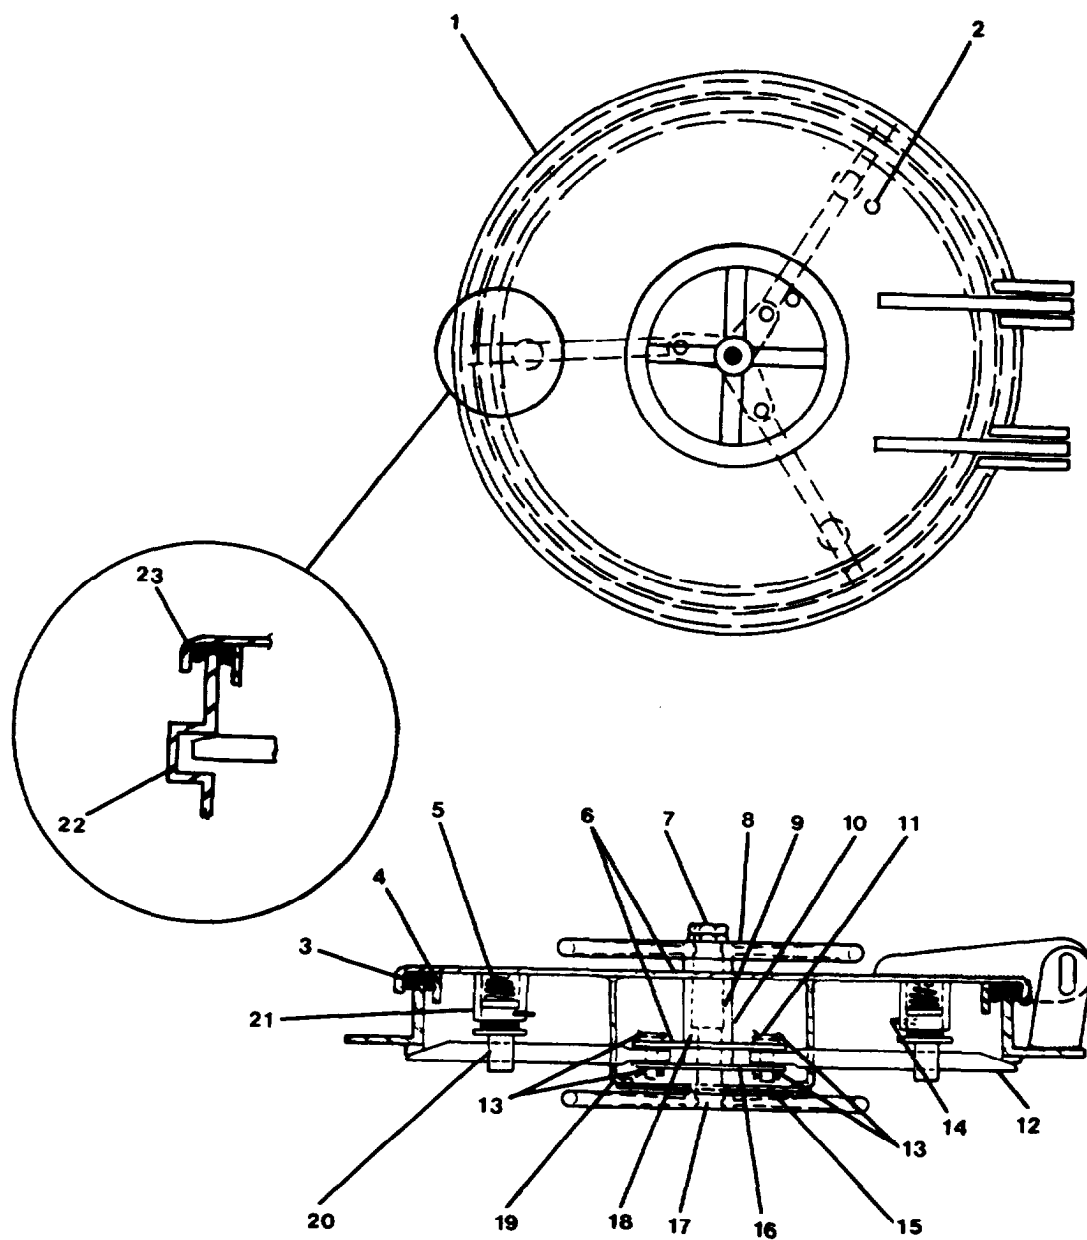

FIGURE 2-183. Repair Watertight Scuttle, Quick Action (Raised).
- a. Remove jam nuts (7, FIGURE 2-183) and handwheel (8) from scuttle (1).
- b. Remove handwheel and shaft (17).
- c. Remove cover (15) from scuttle.
- d. Remove cotter pins (13) from cylindrical pins (11).
- e. Remove cylindrical pins (11) from dog arms (12).
- f. Loosen set screws (14), remove dog arms (12) with guides (20), and helical compression springs (5).
- g. Remove spider (16) and flat washer (18) from scuttle.
- h. Remove bronze bushings (6) and preformed packing (9) from handwheel shaft (17).